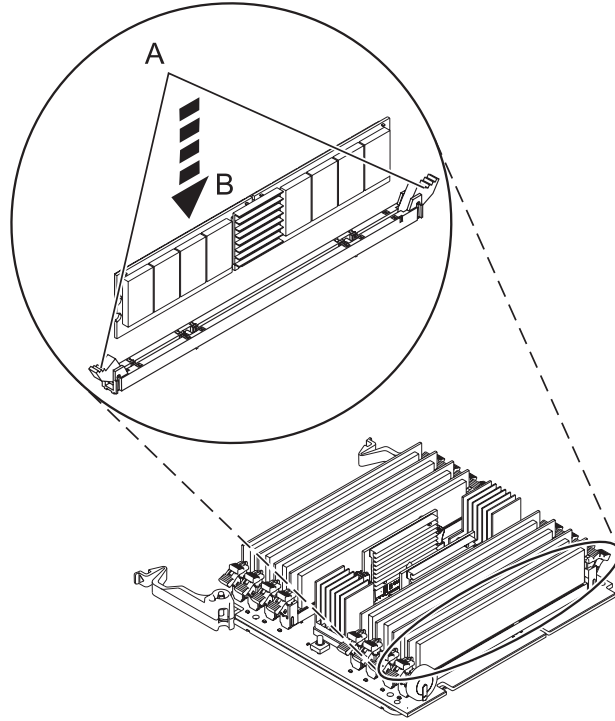

Figure 18. Replacing a memory module
11. Ensure that the connector locking tabs (A) are pushed open into the unlocked position, as shown in Figure 18 on page 35, before installing a new memory module.
12. Carefully grasp the memory module along the edge (B) and align it with the connector.